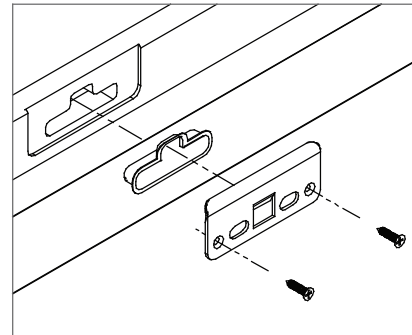

Figure 2
Seat head strike into head strike machining and attach with (2) #8 x 5/8" screws. See Figure 2.